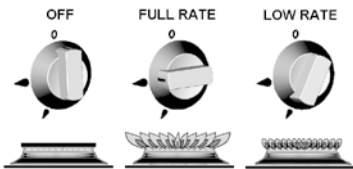

Fig. 1
3. To light: Push in the control knob and turn to full rate – see Fig.1. Hold a lighted match or taper to the burner and push the control knob in and hold. It is necessary to hold the knob depressed after the burner has ignited for approximately 10 - 15 seconds, to allow the thermocouple probe to reach temperature, before releasing the knob. Should the flame go out when the knob is released, the procedure should be repeated holding the knob depressed for slightly longer.
2. To light: Open door, push in the control knob and turn to full rate – see Fig 1 (page 132). Hold a lighted match or taper to the burner and push the control knob in and hold. The burner should ignite and the control knob should be held in for 10 -15 seconds before release.